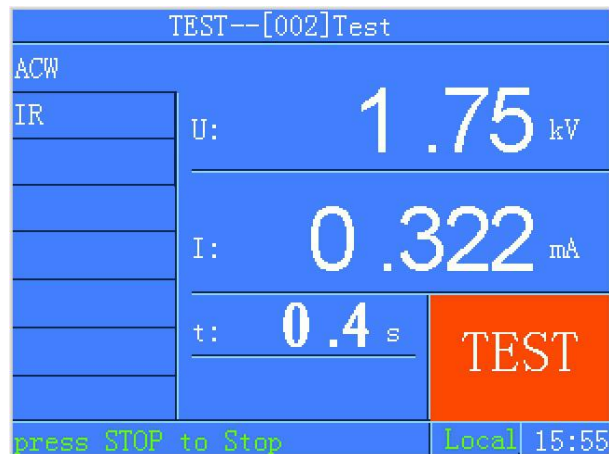

Figure 4-6-2 Testing process
1) During testing, it is as shown in Figure 4-6-2: